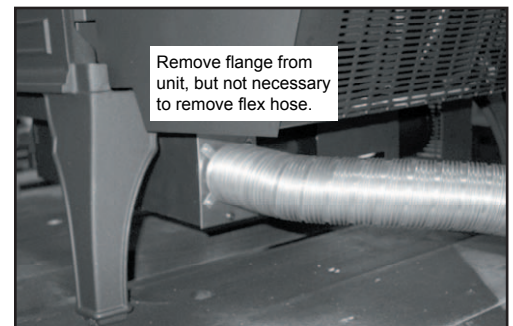

Figure 29.4
- b. The convection blower is located at the bottom rear of the stove. If an outside air kit is also installed, you will first need to remove the outside air flange by removing the 2 screws using a Phillips head screwdriver. You do not need to remove the flex pipe from the flange. **Figure 29.4.**